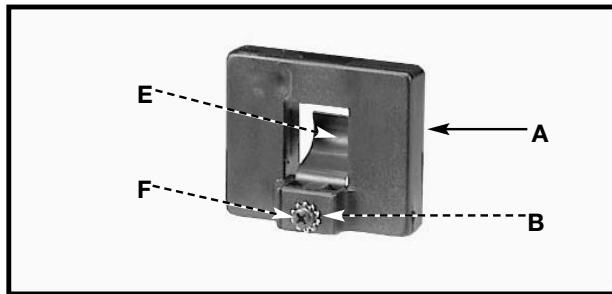
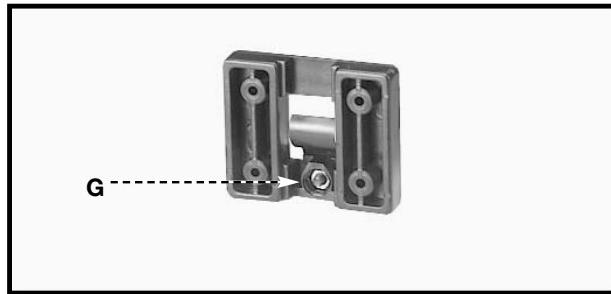

Fig. 5
Fig. 6
1. Attach the spring clip (E) Fig. 5 to the miter gauge holder (A) using an M4x.7x10mm pan head screw (F), 3/16" external tooth lockwasher, (B) and M4x.7 hex nut.
- NOTE:** The hex nut (G) Fig. 6 will fit into the recess at the back of the miter gauge holder (A) Fig. 5 to keep the spring clip (E) secured to the miter gauge holder.